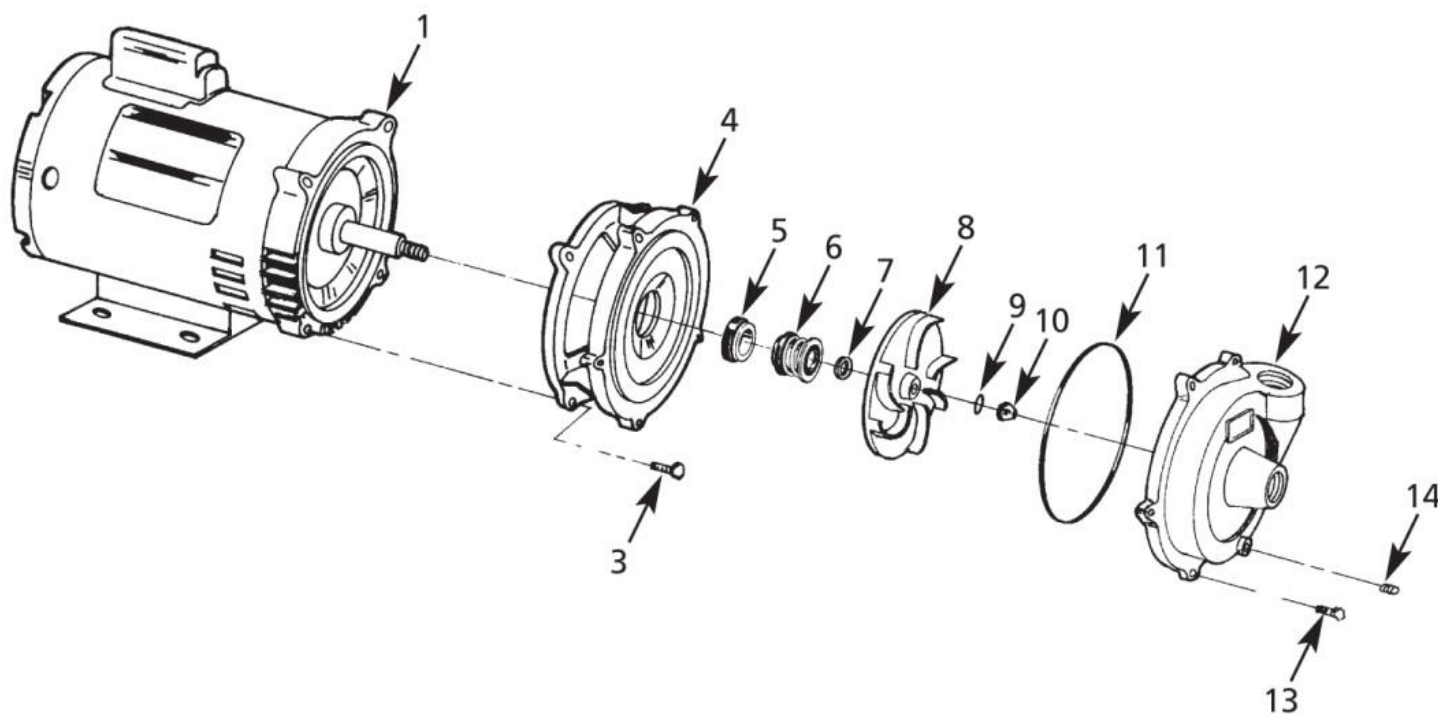

Figure 2 – Repair Parts Illustration
10. Wet inside rubber portion of new seal head with a light coating of soapy water. Slide head onto motor shaft with sealing surface facing seal seat. (See Figure 2).